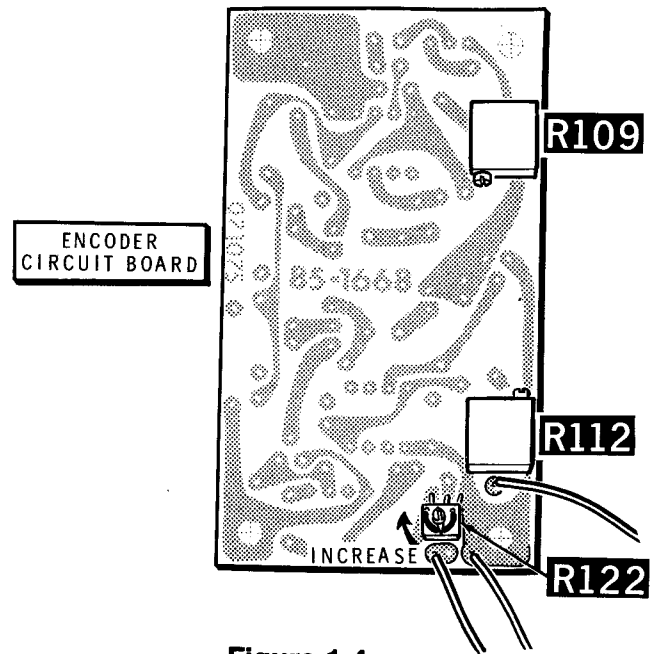

Figure 1-4
Refer to Figure 1-4 for the following step.
1. () While you speak into the Micoder microphone, adjust the transmitter LEVEL control for 4.5 to 5 kHz of FM deviation using a deviation monitor meter. Then, while you key the transmitter, and at the same time push the “#” sign on the encoder keyboard, adjust the Micoder LEVEL control (R122) for 4.3 to 4.8 kHz of FM deviation. NOTE: Increase the deviation by turning control R122 in the direction shown on Figure 1-4.